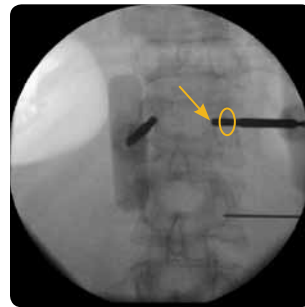

Figure 10
*If the needle is within the medial wall of the pedicle at the base and the trocar has an oblique trajectory into the body, it may appear medial to the pedicle wall due to the oblique trajectory of the needle (**Figure 10**).*